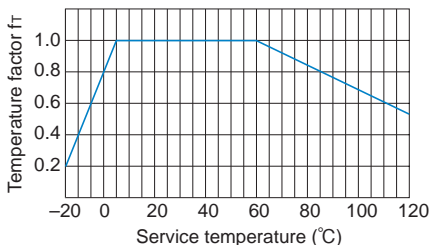

Fig.2 Temperature Factor
If the temperature of the lead screw nut exceeds the normal temperature range, the seizure resistance of the nut and the strength of the material will decrease. Therefore, it is necessary to multiply the dynamic permissible torque (T) and the dynamic permissible thrust (F) by the corresponding temperature factor indicated in Fig.2.
- fT : Temperature factor (see Fig.2)
- F : Dynamic permissible thrust (N)
- PF : Axial load (N)